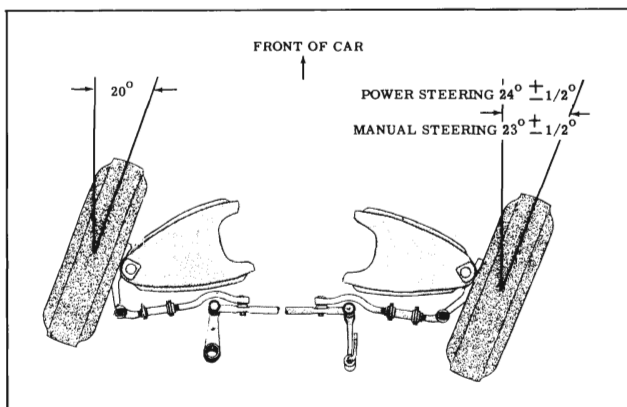

Fig. 5-29 Front Wheel Toe-Out
4. TOE-OUT (STEERING GEOMETRY) (Fig. 5-29)
### TOE-OUT (STEERING GEOMETRY) (Fig. 5-29)